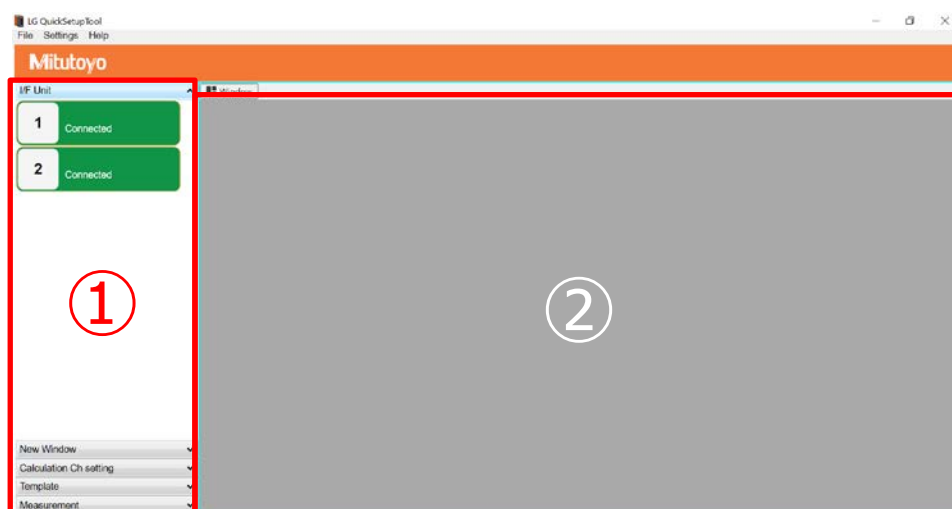

figure3.1-1 Startup screen
With this application, you can perform various operations from the menu bar on the left side of the screen in figure 3.1-1①, and check the measured values and judgment results in the window management area in the center of the screen in②.